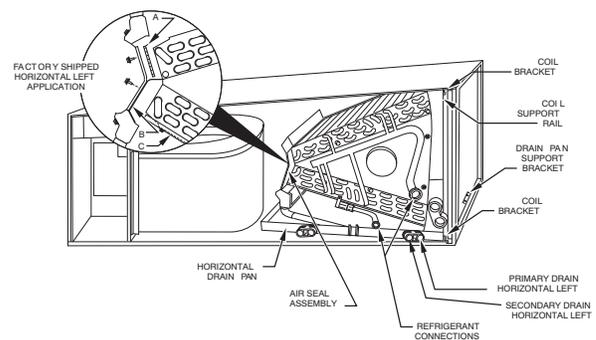

Fig. 3 - A-Coil in Horizontal Left Application (Factory Ready)
- b. Remove air splitter (B) from coil seal assembly by removing 3 screws. (See Fig. 3-factory shipped inset.)
- c. Remove filter plate (A) and install air splitter (B) in place of filter plate.
- d. Install filter plate (A) as shown in horizontal right application.
- e. Remove condensate troughs (C) and install on opposite tube sheets.